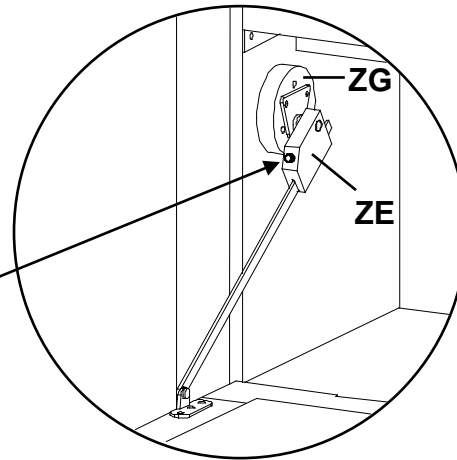

Fig. 15
- Open the Door (R). To adjust the brake tension on the Door Stay (ZE) turn the screw on the front of the Door Stay clockwise to loosen or counterclockwise to tighten. See Figures 15 and 15a.